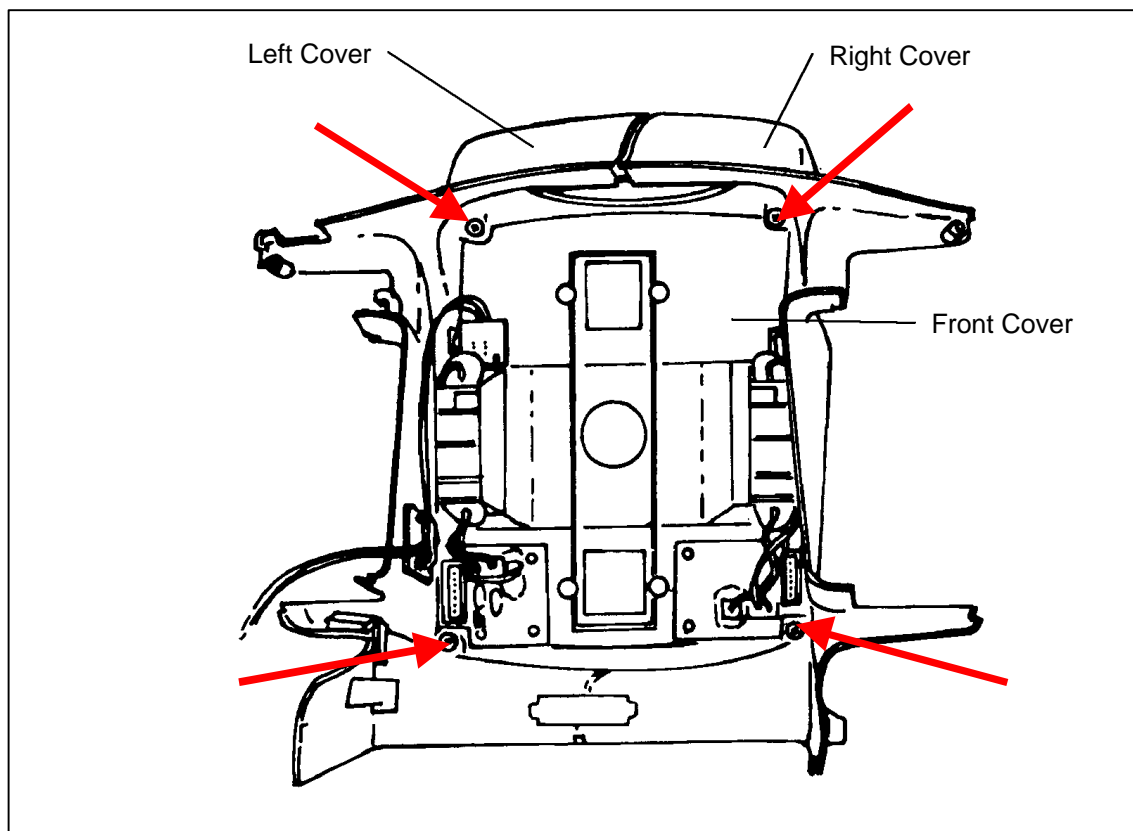

Figure 5-3 Front Cover
1. Removal (Figure 5-3)
- b. Using a torx driver, remove the four (4) screws securing the front cover to the left/right covers.